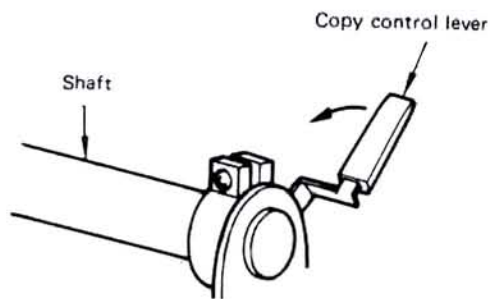

Figure 6-2.
- Set the copy control lever in the foremost position. (See Figure 6-2.)